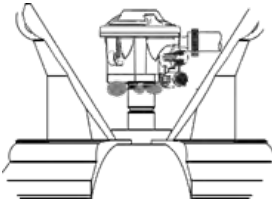

figure 10
2. Apply several drops of solution where the gas cylinder valve is attached to the regulator (figure 10). Inspect and look for bubbles. If **NO** bubbles appear, the connection is tight. If bubbles appear, the connection has a leakage. Disconnect the regulator, reconnect, perform another leak check. If you continue to see bubbles after several attempts, cylinder valve is defective and should be returned to the supplier of the cylinder.